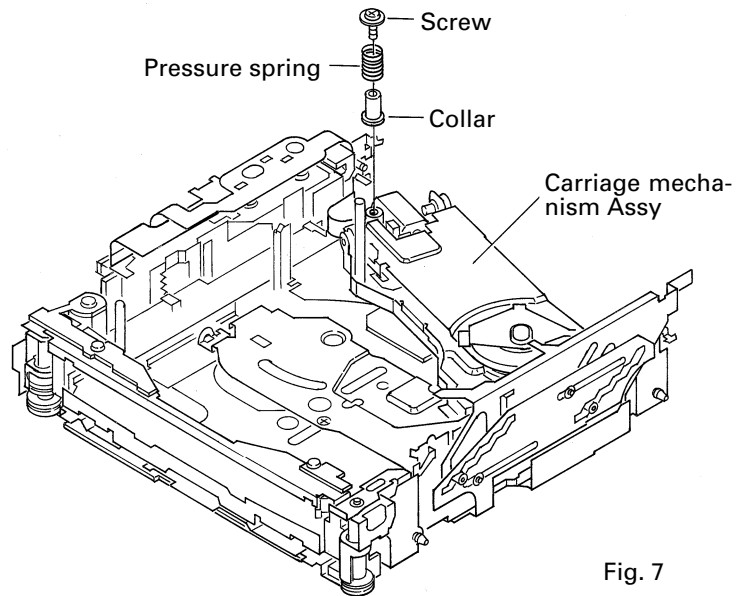

Fig. 7
5. Rotate the Cam gear motor until the positions of all holes (E) match, then stop the motor. (The Carriage Mech assy will stop as shown in the Fig.7.)
8. Remove the flexible PCB (C) from the motor. (The flexible PCB (C) has been stuck on the motor with double-sided adhesive tape.)